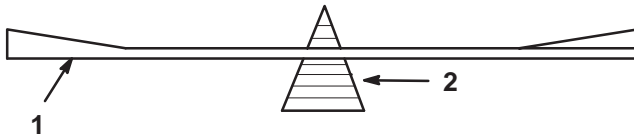

Figure 30
2. Check the balance of the blade by putting it on a blade balancer (Fig. 30). If the blade stays in a horizontal position, the blade is balanced and can be used. If the blade is not balanced, file some metal off of the back side of the blade. Repeat this step until the blade is balanced.